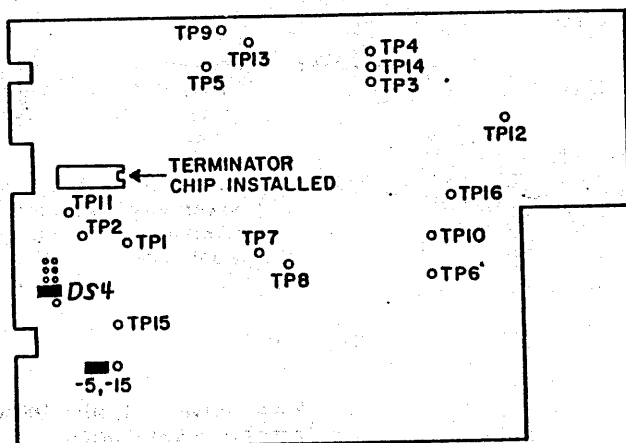

Figure 3-35
2. Replacement 10 MB disc controller PWA must be jumpered before installation to match Figure 3-35.